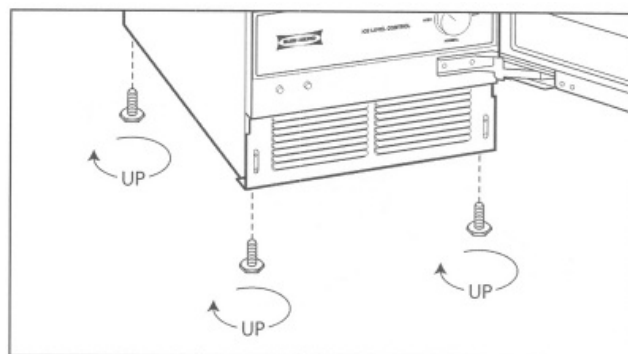

Figure 2-3. Unit Leveling
- **Note:** The unit must be leveled prior to installation. There are four leveler legs on a model 3151, one at each corner. To level the unit, turn the leveler legs counterclockwise to raise the unit or clockwise to lower it. (See Figure 2-3)